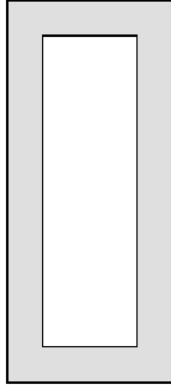

**Figure 17. Solder Paste Application on Exposed Pad**
3. For the PCB thermal pad, solder paste should be printed on the PCB by designing a stencil with an array of smaller openings that sum to 50% of the QFN exposed pad area. Solder paste should be applied through an array of squares (or circles) as shown in Figure 17.